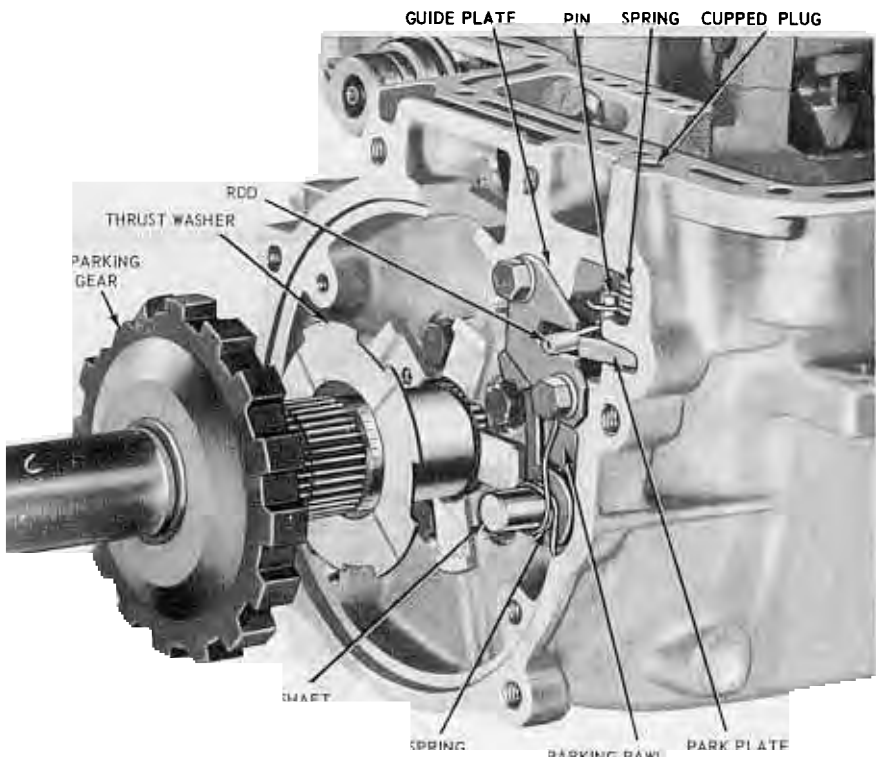

FIG. 34—Parking Pawl Mechanism
1. Remove the bolts that secure the parking pawl guide plate to the case (Fig. 34). Remove the plate.
7. Install a new cupped washer (Fig. 34) to retain the shaft.